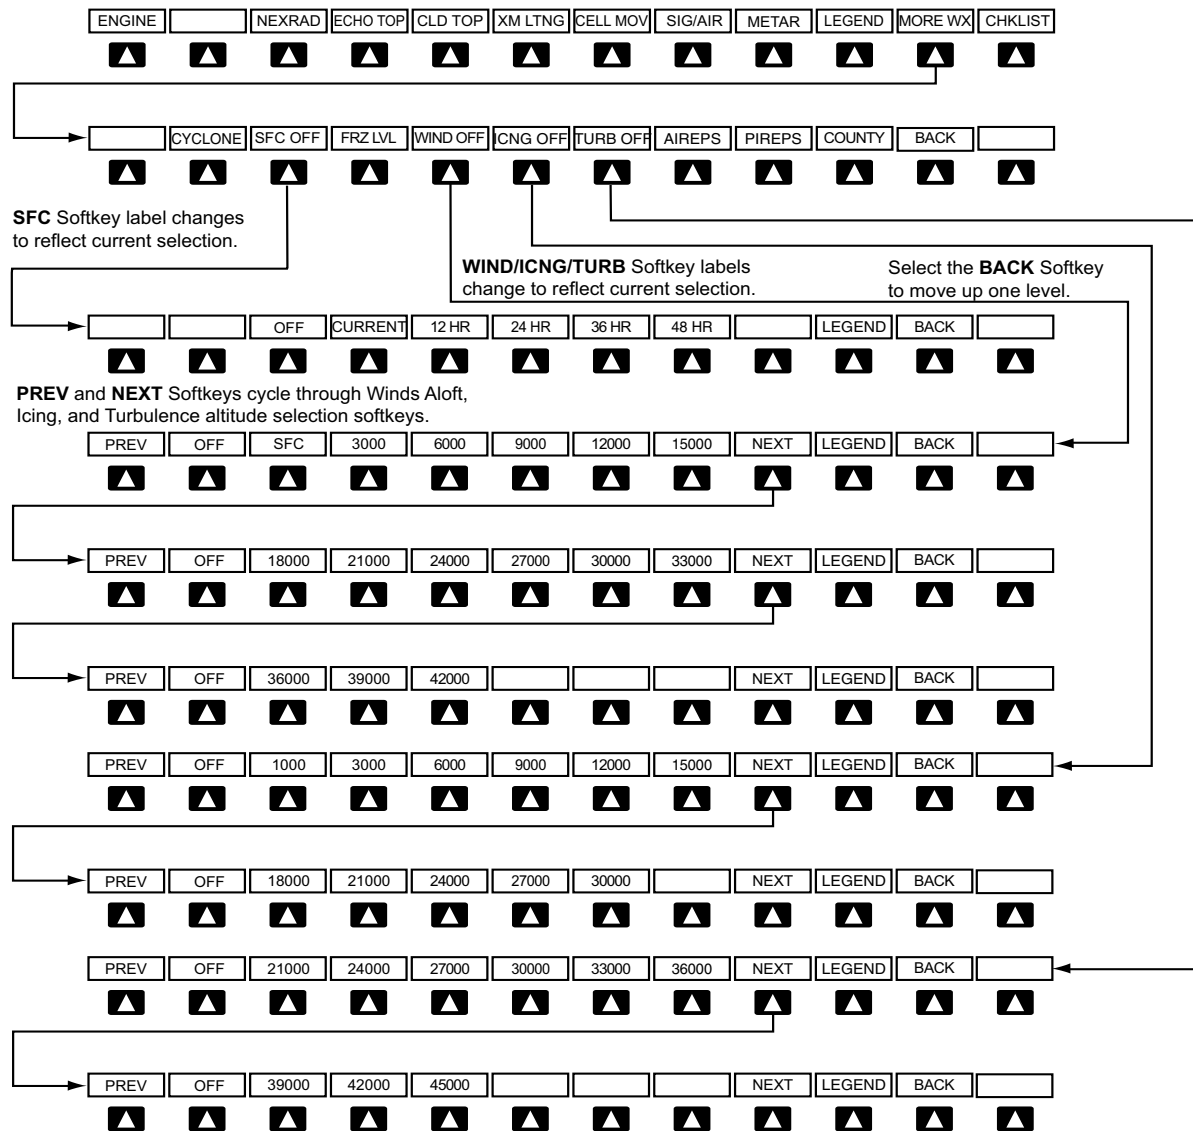

Figure 6-3 Weather Data Link (XM) Page Softkeys
Softkeys control the display of weather information on most MFD pages and the PFD Inset Map. Figure 6-3 shows the weather product softkeys for the Weather Data Link (XM) Page. When a weather product is selected for display, the corresponding softkey label changes to gray to indicate the product is enabled.